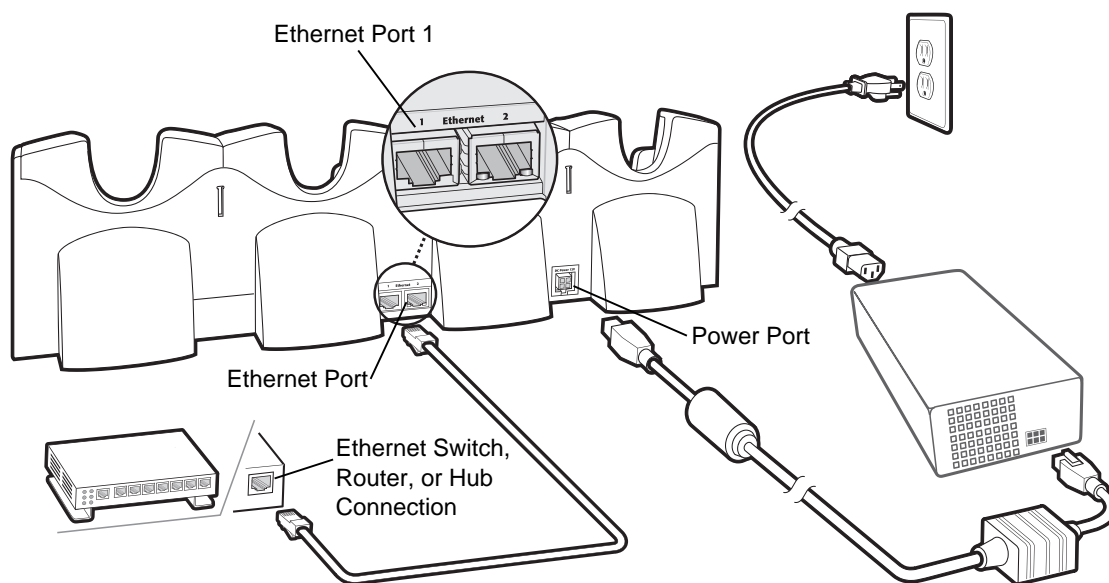

Figure 2-4 Four Slot Ethernet Cradle Connection
2. Connect an Ethernet cable to Port 1 of the first cradle as shown in Figure 2-4.
5. Connect power (see Figure 2-4 on page 2-7). The power supply should be located in the power supply well.